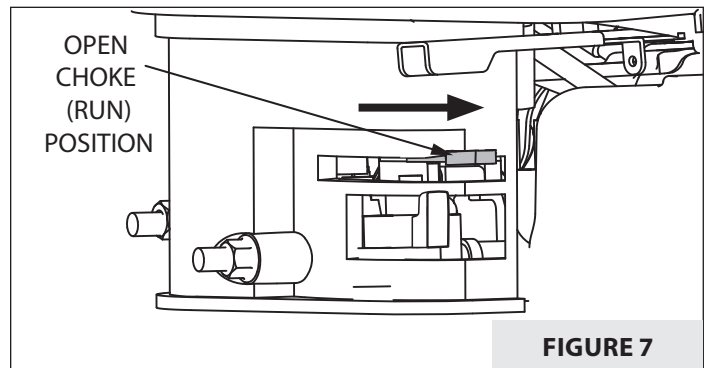

FIGURE 7
8. Once engine is warmed up, slowly move the choke lever to the **RUN** position. **SEE FIGURE 7.**